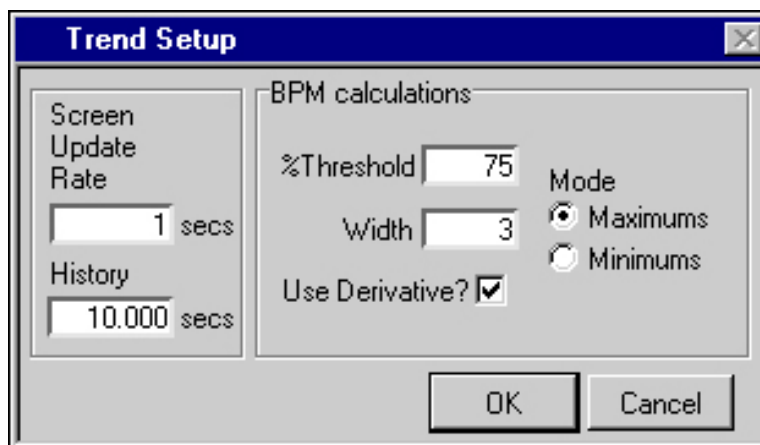

Figure B-9. BPM Calculation, Trend Setup Dialog Box
- Click on the **Setup** button in the trending area to enable trending and configure the beat per minute (BPM) calculation parameters as shown in Figure B-9.